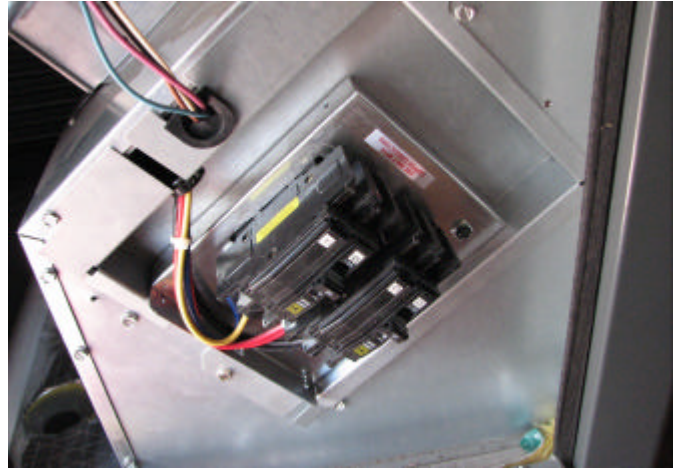

Figure 5
11. Feed 9-pin harness wires through the rubber grommet, and feed WGO wires through the plastic bushing in the rear mounting plate. See Figure 5.